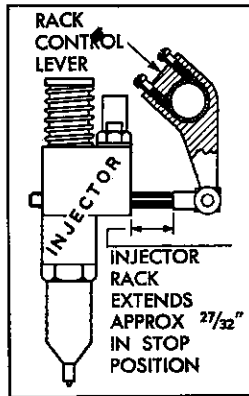

Fig. 22—Rack Stop Position.
2. Hold governor control lever in the "stop" position (governor control link connected). Each injector rack must extend approximately  $\frac{27}{32}$ " from injector body. (See Fig. 22.) This measurement assures engine shut down.